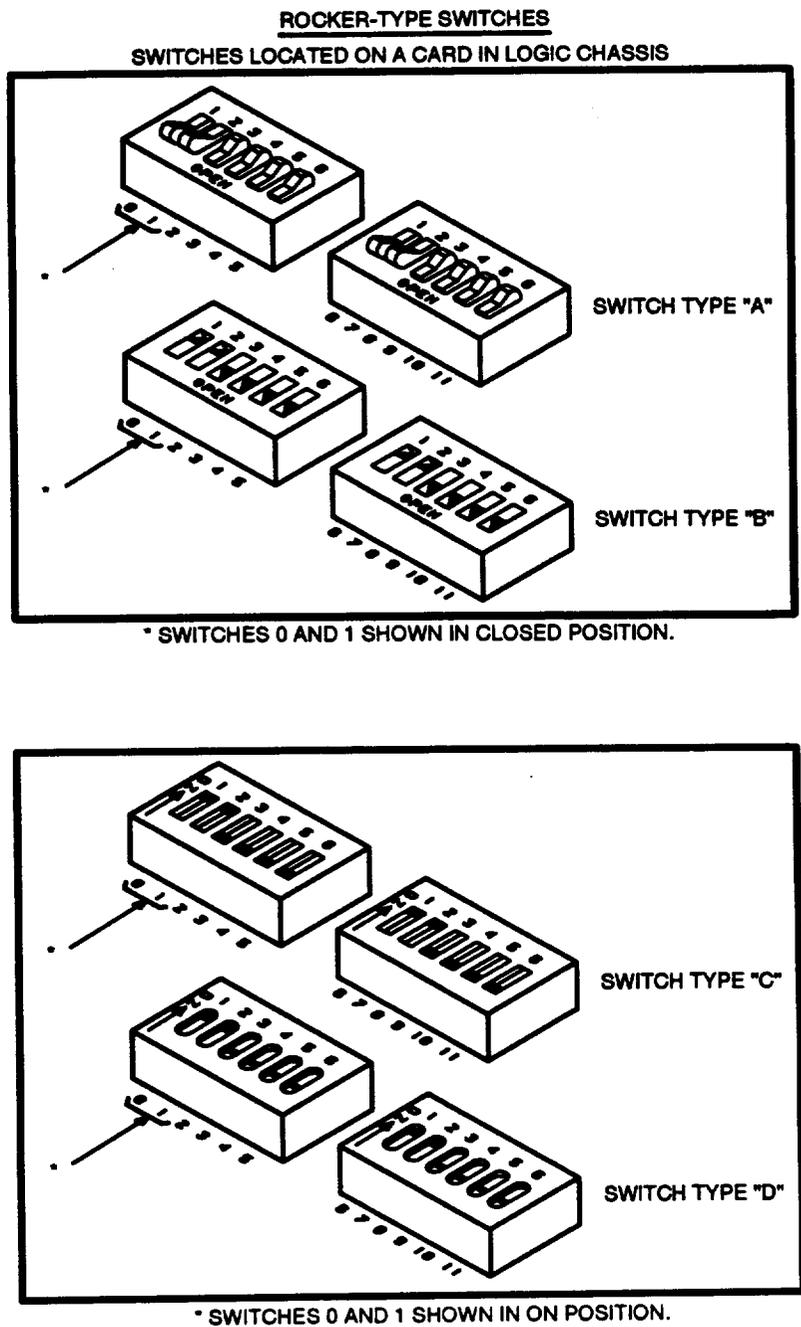

Figure 11. Sector Select Switches
3.11 Data is written into each track on a disk when the proper write conditions are established. In addition, each track is divided into a number of sectors so that the location of a particular data item is defined by the track address and the sector number. There can be 20,160 bytes stored on each track. The number of sectors in each track is established by the settings of sector switches (Figure 11). The number of bytes per sector depends on the selected number of sectors per track.